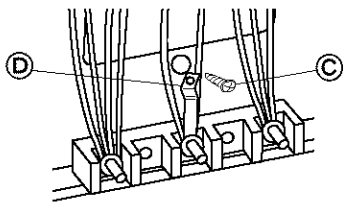

Figure 1
8. Remove the ground-link screw Ⓒ from the range frame. Save the ground-link screw. Bend up the ground link Ⓓ so that it does not contact the range. See Figure 1.
8. Use the brass terminal nuts attached to the inside of the terminal block cover to connect the neutral wire (white wire) Ⓕ to the silver-colored terminal screw Ⓓ on the terminal block. See Figure 1.
9. Connect the other two wires Ⓖ to outer terminal screws on the terminal block. See Figure 1.